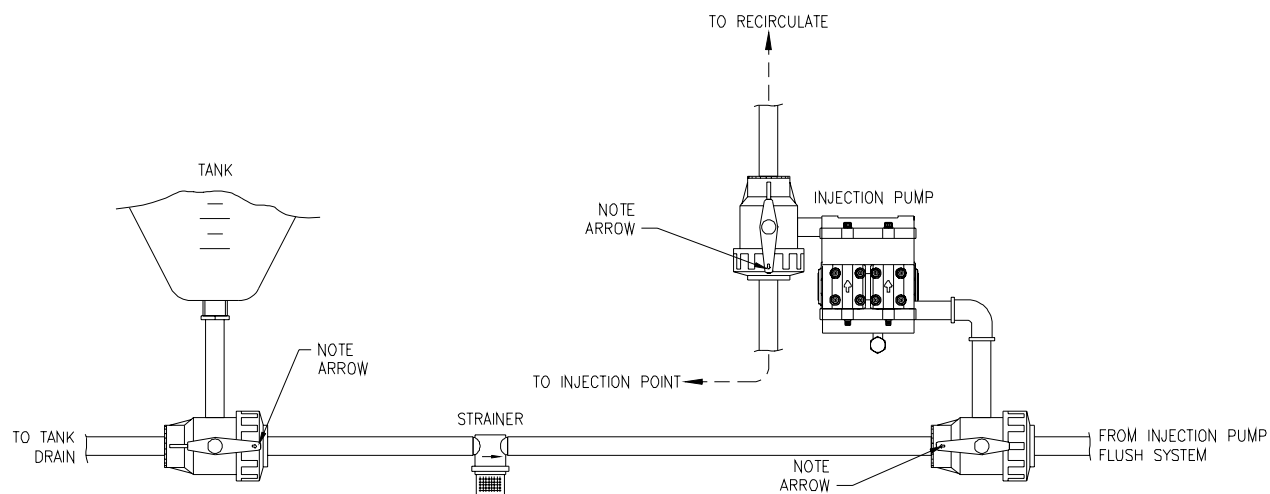

FIGURE 9C
- 6) Figure 9C illustrates typical injection module plumbing, showing the three way valve handle positions for injecting product.